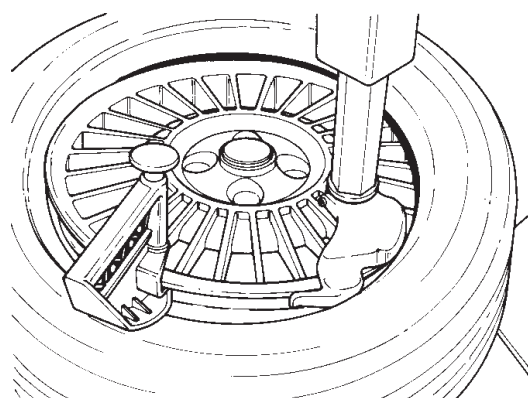

Fig. 4-11
C. Mount the upper bead following the directions in section B. With low profile tires the bead holding clamp (option EAA0247G11A Fig. 4-11) can help to prevent the top bead from prematurely seating during the mounting cycle.
C. Lift the tire with both hands so that the upper bead is sealed to the rim edge (Fig. 4-11).